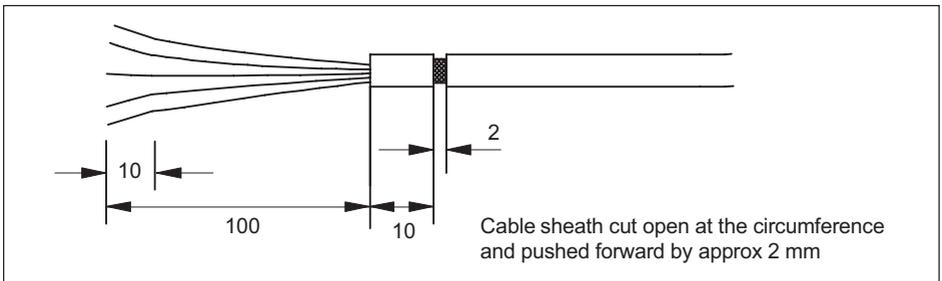

Fig. 7.1 Slit cable sheath
1. You can get to the screen through a slit in the cable sheath (see Fig. 7.1).